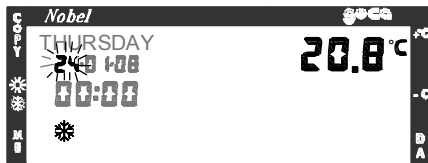

Fig.11
Use the keys **+H (>)** and **-H (<)** for moving on the items DAY, DATE and HOUR. Use the keys **+C (Λ)** and **-C (V)** for modify the value.(Fig. 11,12,13,14).